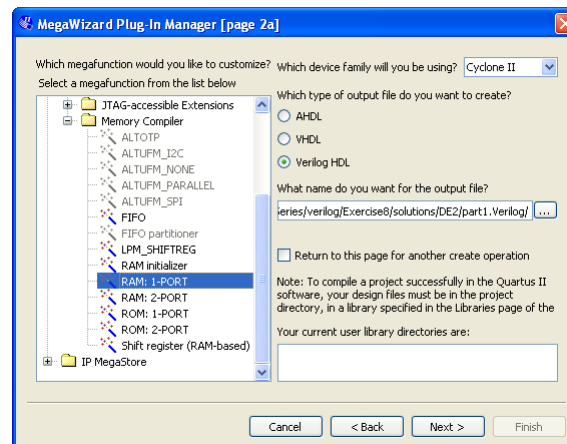
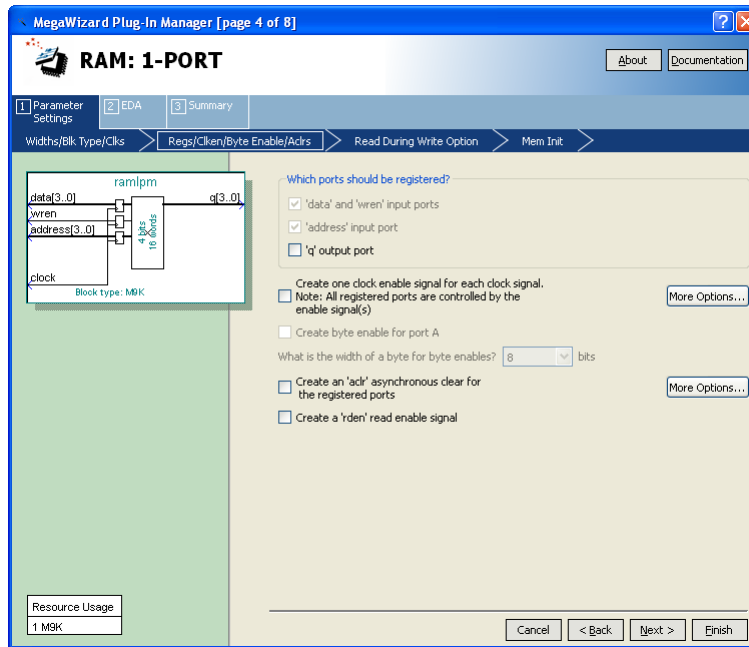

Figure 2: Choosing the *RAM: 1-PORT* LPM.
Figure 3: Configuring input and output ports on the *RAM: 1-PORT* LPM.
2. You can learn how the MegaWizard Plug-in Manager is used to generate a desired LPM module by reading the tutorial *Using Library Modules in Verilog Designs*. This tutorial is provided in the University Program section of Altera's web site. In the first screen of the MegaWizard Plug-in Manager choose the *RAM: 1-PORT* LPM, which is found under the Memory Compiler category. As indicated in Figure 2, select Verilog HDL as the type of output file to create, and give the file the name *ramlpm.v*. On the next page of the Wizard specify a memory size of 32 eight-bit words, and select M4K as the type of RAM block. Accept the default settings to use a single clock for the RAM's registers, and then advance to the page shown in Figure 3. On this page *deselect* the setting called 'q' output port under the category Which ports should be registered?. This setting creates a RAM module that matches the structure in Figure 1b, with registered input ports and unregistered output ports. Accept defaults for the rest of the settings in the Wizard, and then instantiate in your top-level Verilog file the module generated in *ramlpm.v*. Include appropriate input and output signals in your Verilog code for the memory ports given in Figure 1b.